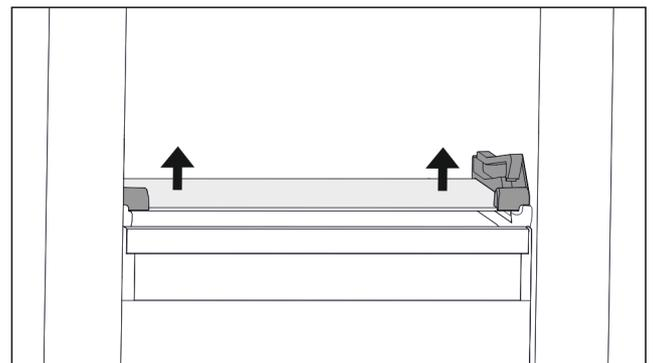

Fig. 61 Tilting drawer glass shelf
- ▶ Push glass shelf upwards from below on both sides. (see Fig. 61)